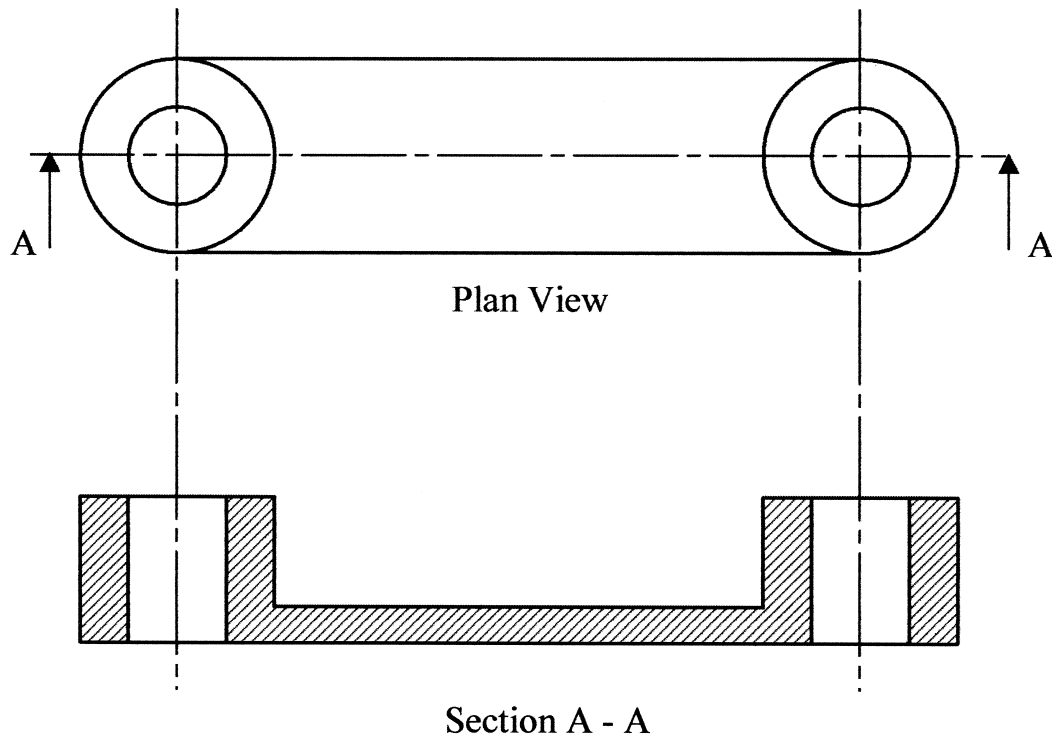

Figure 8
- (b) The orthographic drawing of a coupling rod used in the drive mechanism of the train is shown in **Figure 8**. Modify this drawing to show a simple way of strengthening the rod.